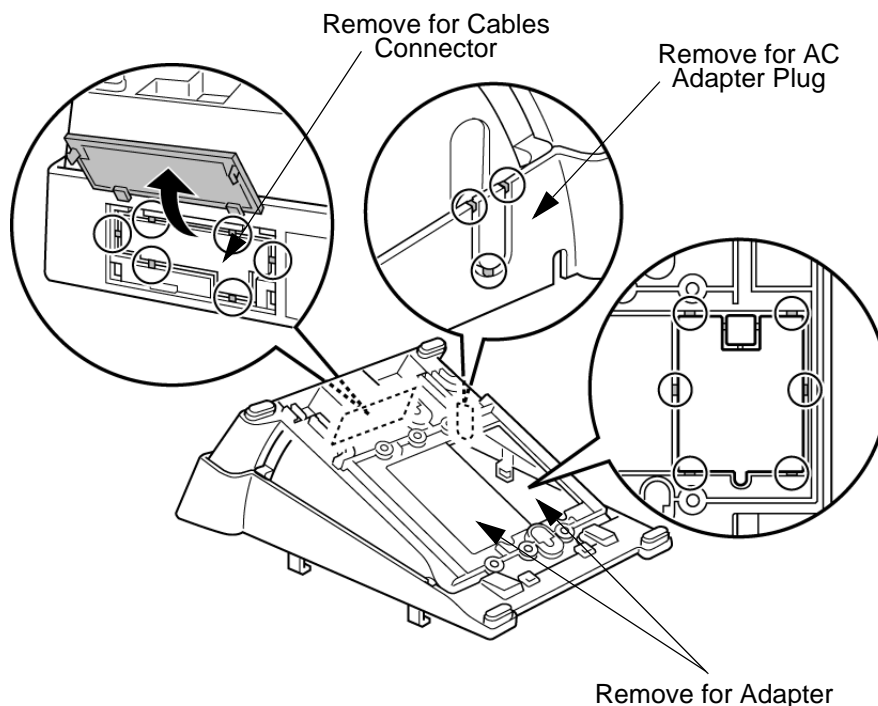

Figure 5-4: Modifying Base Plate for Adapter Installation
4. When an adapter is installed for the first time in a terminal, the base cover on the Multiline Terminal must be modified. Two adapters can be installed in the Multiline Terminal, and two separate cutouts are provided. Remove the applicable cutout/cutouts on the bottom of the base plate with nippers. When only one adapter is being installed and it needs an ACA-U() Unit for power, remove only the right cutout as shown in *Figure 5-4: Modifying Base Plate for Adapter Installation*.